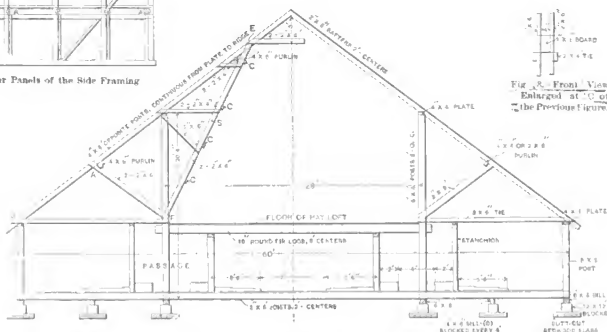

Fig. 2—Elevation Showing at the Right of the Central Dotted Line Our Correspondent's Sketch, while at the Left is the Construction Recommended by Mr. Kidder.
Figs. 2 and 3.—Finding Side Bevels of Valley Rafters in Roofs where One Ridge is Higher than Another.
*Answer.*—We submitted the inquiry of our correspondent, with his diagrams, to Mr. Kidder, who presents the following in reply: The method I would advise for trussing the rafters over the center span is that indicated at the left of the central dotted line in Fig. 2, the portion at the right representing the original sketch of the correspondent. This leaves the center clear, requires but little lumber and gives as stiff a construction as is possible without a tie beam across from the upper plates. It will give all the rigidity necessary and at the same time a good support for the rafters and for the hay carrier.